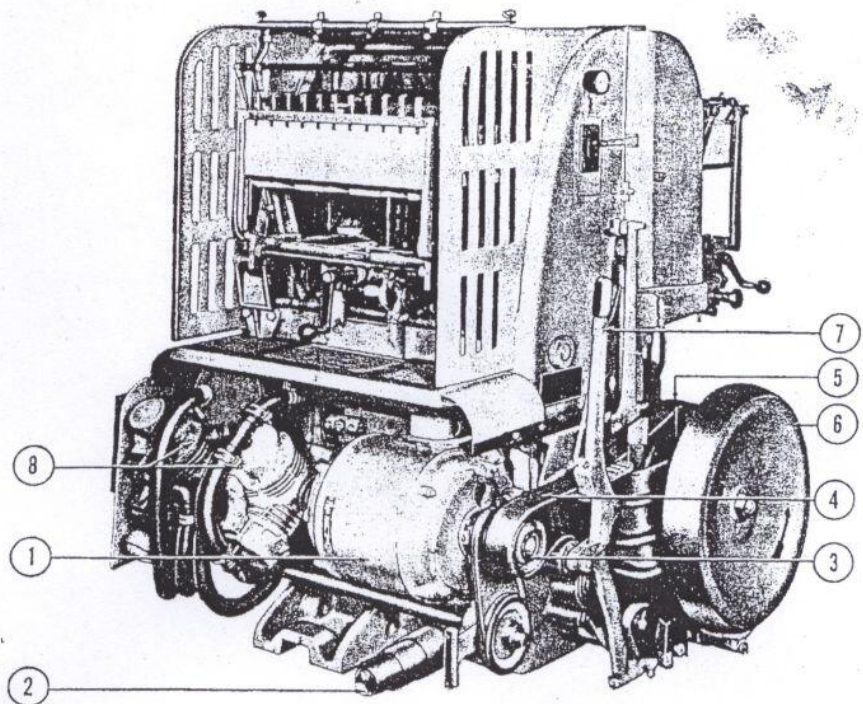

Figure 9—Drive and Air Pumps
g. DRIVE. (See figure 9.)—The V-50 press is driven by a 3 h.p. constant speed motor (1). Five speed-change pulleys (2) supplied with the press are easily installed on a motor drive shaft splined adaptor (3) and provide for press speeds of 3,000, 3,500, 4,000, 4,500 and 5,000 impressions per hour. A press driving belt (4) links the speed pulley directly with a flywheel pulley (5) which in turn is directly geared with the press main cam shaft. A heavy flywheel (6) attached to the flywheel pulley shaft insures smooth press operation. A belt tightener lever (7) provides for gradual starting or stopping of the press, while the drive motor is running, by flywheel braking and belt slacking adjustment.
i. AIR SYSTEM.—The blast and suction for the press are supplied from two diaphragm-type pumps, (8) figure 9, mounted at the delivery end of the press. The pumps are belt driven from a common drive shaft which is belt connected to the press motor drive shaft. The mounts for the pumps and motor are screw adjustable to maintain proper belt tension. The pumps require no lubrication, thereby reducing the possibility of oil entering the blast lines and staining the job being run.